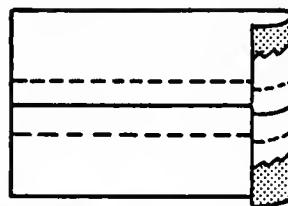

Fig. 98B. A simulated slot seam.
2. A simulated slot seam can be made by pressing a plain seam open. Each side of the seam may be topstitched (Fig. 98B).